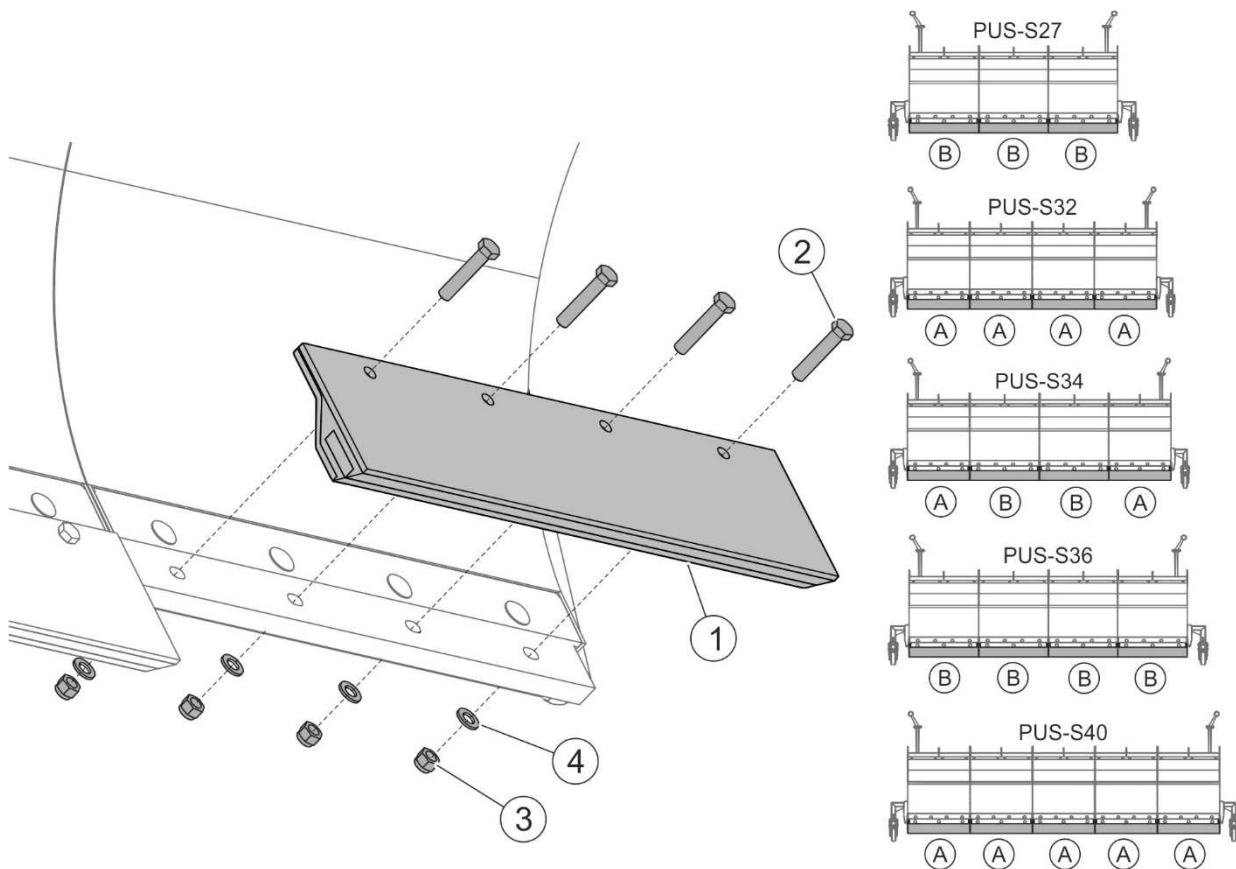

FIGURE 5.3 Replacement of Kuper type blades.
(1) - Kuper type blade; (2) - bolt; (3) - nut; (4) - washer; (A) - short segment; (B) - long segment.
To remove a Kuper type blade (1) (FIGURE 5.3), undo nuts (3) of an appropriate segment, take out bolts (2) and remove the blade (1). Fit an appropriate blade segment (A) or (B), depending on the snowplough model (TABLE 5.1). Install in reverse order.